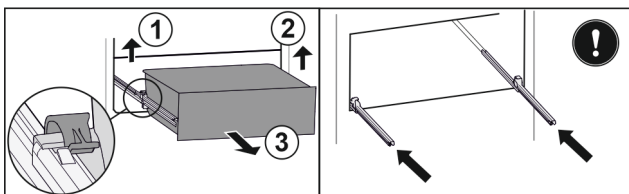

Fig. 174
- ▶ Lift left clamp and simultaneously pull drawer forwards on the left. Fig. 174 (1)
- ▶ Lift right clamp and simultaneously pull drawer forwards on the right. Fig. 174 (2)
- ▶ Remove drawer to the front. Fig. 174 (3)